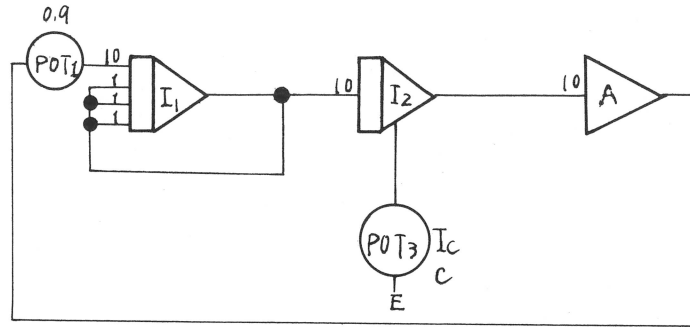

Fig. 10-5 Block diagram of the equation (3)
The equation (6) is a machine equation for the analog-computer. Both block diagrams of the equations (3) and (6) are illustrated in Fig. 10-5 and 10-6 for comparison.